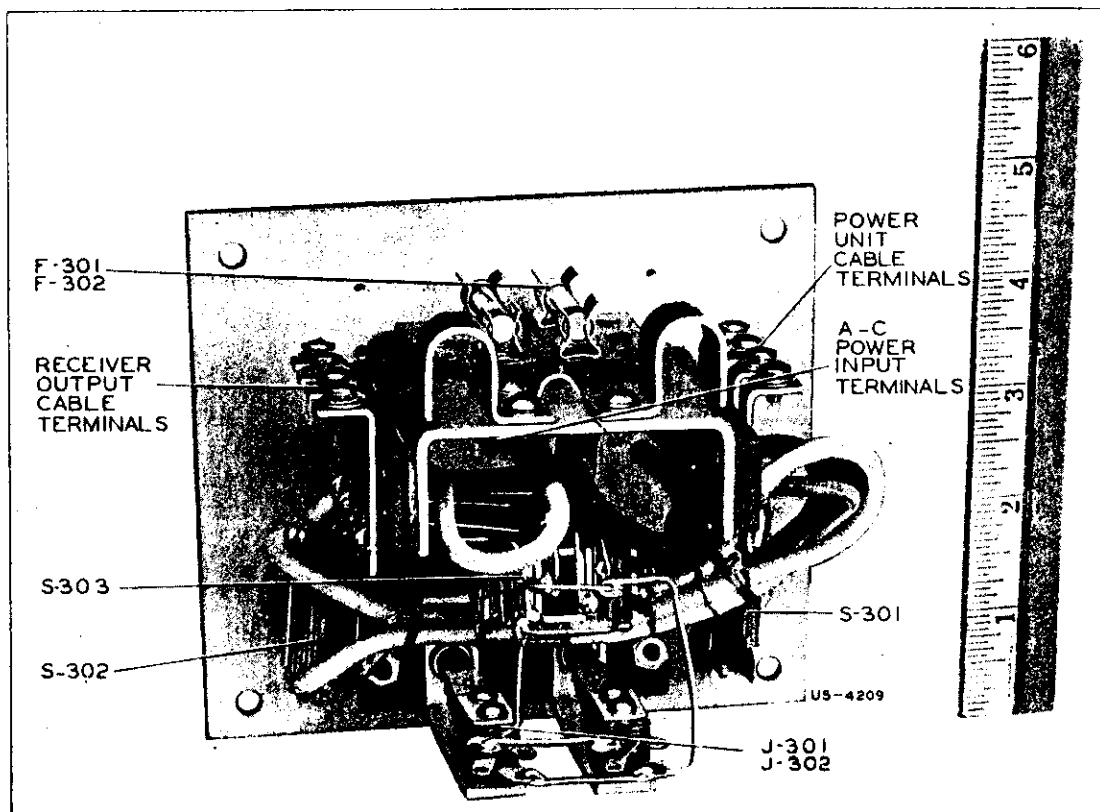

Figure 5—Control Unit CRV-23073 (Rear View of Panel)
8.4-1 The control unit contains output jacks, mixer switch, and power switches mounted on the panel. (See Figure 5.) Fuses and terminal boards are mounted on a bracket secured to the panel. The case may be permanently mounted to any flat surface (see Figure 14).
- 2 6 Control Unit CRV-23073 (see Figure 5) is shown schematically in Figure 18. The use of this control unit makes possible the guarding of two channels simultaneously. The output of each receiver feeds into the control unit where a 3-position switch is provided which makes available, in the two headphone jacks, signals from either or both of the receivers. Two power switches also are provided on the control unit panel for controlling the power to each receiver independently. The a-c power supply feeds into the control unit and each side of the line is fused. The two supply cables connect to suitable terminals on the power units, which terminals are arranged to omit from the circuit the switch and the fuses in the power unit.